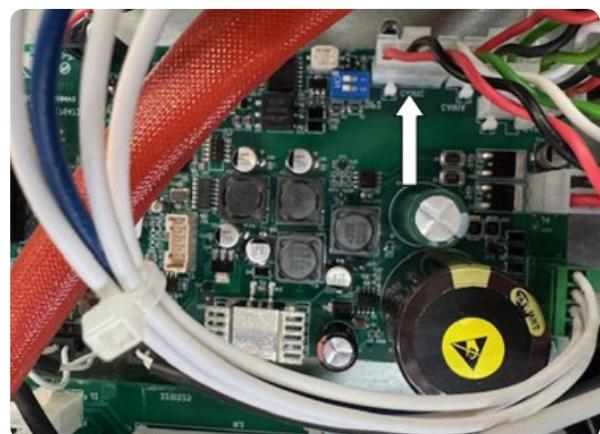

Fig. 6
- ◆ Connect the 4-pole connector at the opposite end of the 5587505 (pos.3) connection to the CAN1C connector of the 5602684 control circuit positioned above the tunnel as shown in fig.6;